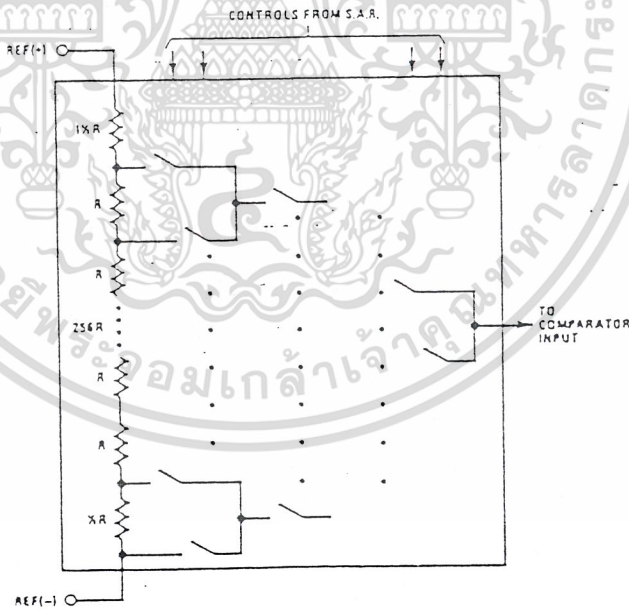

FIGURE 1. Resistor Ladder and Switch Tree
- Note 5: Total unadjusted error includes offset, full-scale, linearity, and multiplexer errors. See Figure 1. None of these A/Ds requires a zero or full-scale adjust. However, if an all zero code is desired for an analog input other than 0.0V, or if a narrow full-scale span exists (for example: 0.5V to 4.5V full-scale) the reference voltages can be adjusted to achieve this. See Figure 13.
The 256R ladder network approach (*Figure 1*) was chosen over the conventional R/2R ladder because of its inherent monotonicity, which guarantees no missing digital codes. Monotonicity is particularly important in closed loop feedback control systems. A non-monotonic relationship can cause oscillations that will be catastrophic for the system. Additionally, the 256R network does not cause load variations on the reference voltage.
The bottom resistor and the top resistor of the ladder network in *Figure 1* are not the same value as the remainder of the network. The difference in these resistors causes the output characteristic to be symmetrical with the zero and full-scale points of the transfer curve. The first output transition occurs when the analog signal has reached  $+1/2$  LSB and succeeding output transitions occur every 1 LSB later up to full-scale.